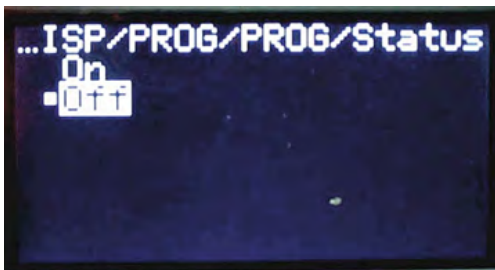

Figure 45: The status menu
4. Press [ENT] to open the Status submenu as shown in *Figure 45* below.